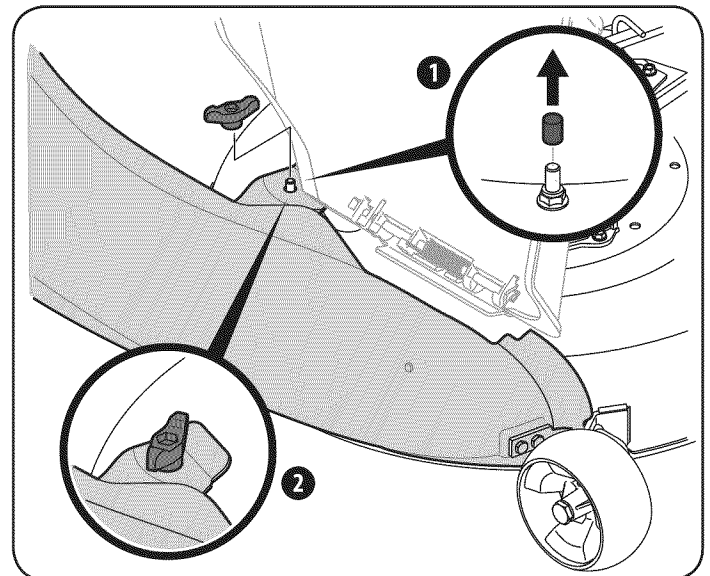

Figure 17
Note: Determine if your deck is a newer model, or an older model. Refer to the upper inset of Figure 17. If your deck has a mounting stud present, then you have a newer deck model and you would follow the instructions below. If no stud is present, refer to the instructions titled **On Tractors With Older Deck Configurations** later in this section.
2. Secure the chute elbow to the deck using the wing knob 720-04122 from hardware pack 689-00319. See Figure 17.
Note: If present, remove the protective cap off of the mounting stud on the mowing deck as seen in the upper inset of Figure 17.